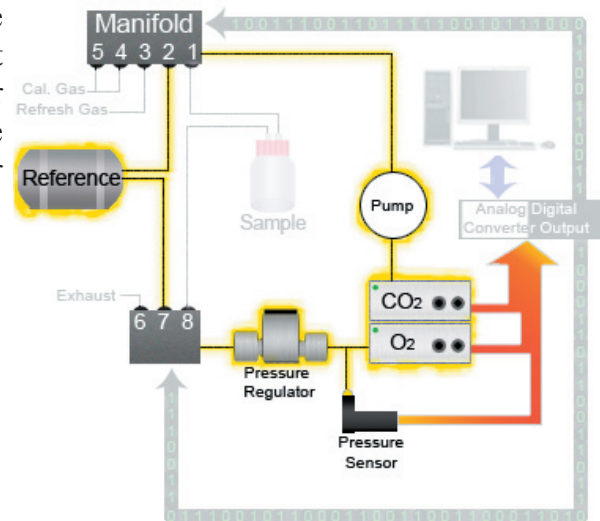

Figure 10
Step 5: Next we measure the concentration of the gases inside of the Reference Chamber (Figure 10). The Reference Chamber is still full of ambient air / mixed gas at this point (from Step 4) so that we have a start point for a reference air measurement. The reason we measure the concentration of the gases inside of the Reference Chamber to account for sensor drift (discussed later in step 10).